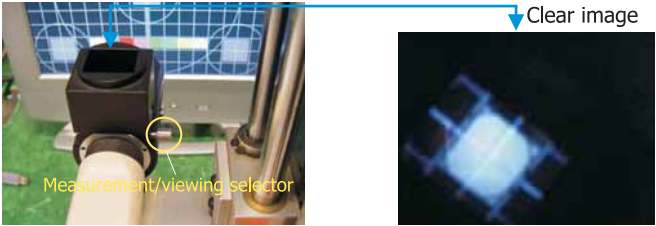

Fig. 4
8. Move the Lens barrel forward or backward to get clear image as shown in Fig. 4